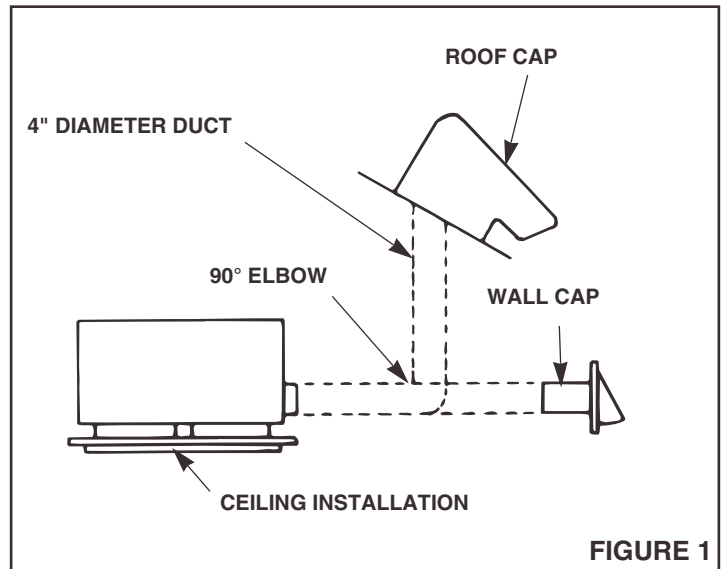
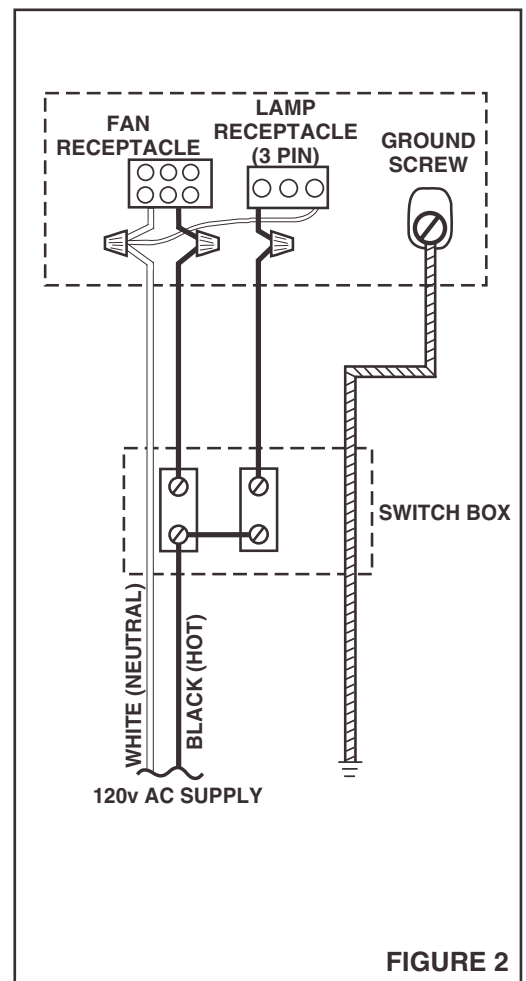

FIGURE 1
FIGURE 2
4. Refer to Figure 1. Use 4" round duct to discharge the ventilator to the outside.
Refer Figure 2.
Refer to Figure 2 for wiring and Figure 1 for ducting.